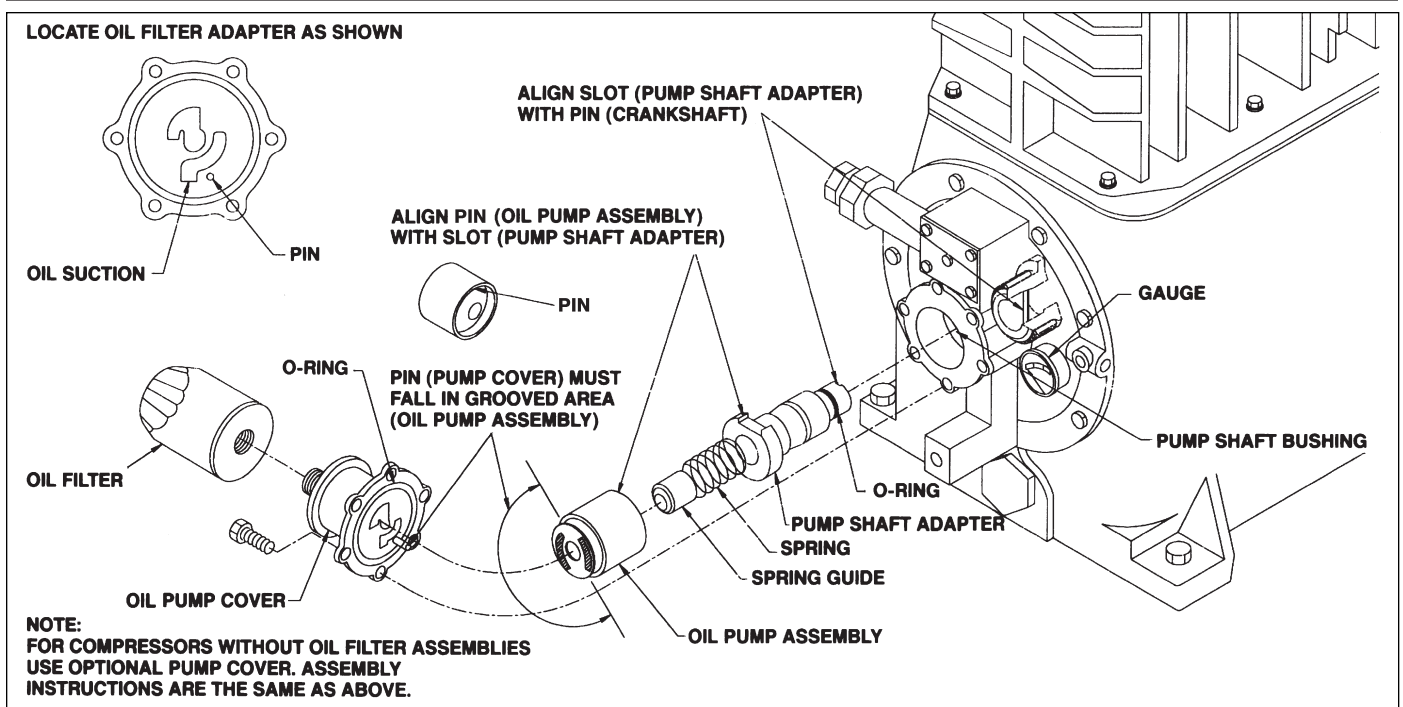

Figure 4.8: Oil pump inspection
1. To check the oil pump, unbolt the pump cover and remove the oil pump, spring guide, spring and oil pump shaft adapter as shown in figure 4.8.
4. Before reassembling the oil pump mechanism, replace the O-rings in the oil pump cover and on the oil pump shaft adapter (see figure 4.8).
8. Install the pump cover so the pin on the case is in the opening on the oil pump assembly as shown in figure 4.8. When you are sure the pin is properly aligned, install the cover bolts finger tight. If alignment is correct, the pump cover will mount flush to the bearing carrier. If it does not, re-check the pin alignment.